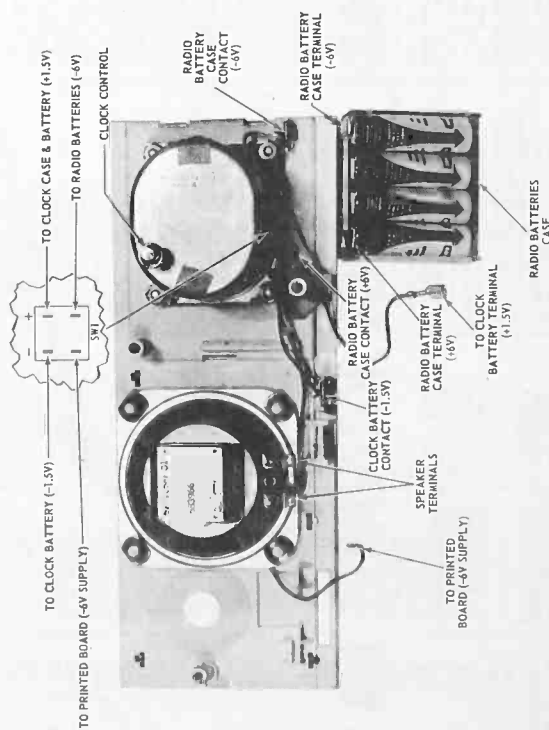

Figure 5 - Rear view of cabinet front with printed circuit chassis removed.
4. Remove the clock control knobs. Remove the clock from the cabinet front. To replace the clock use the reverse of this procedure (solder wires to clock terminals as shown in figure 5).